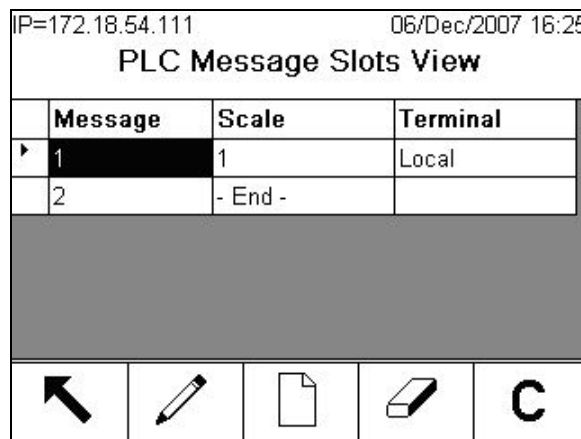

Figure 1-9: PLC Message Slots View Screen
- F. Depending on which format is selected, press the VIEW TABLE softkey  to set up the number of **Message Slots** (1, 2, 3, or 4. In Block Transfer mode, maximum number is 3.) [default is 0], or to configure the Template for communications between the IND780 and the PLC. Figure 1-9 shows the Message Slots View, which is viewed whenever the Format is **not** Template.
Figure 1-11 shows the screen that opens when NEW is selected from the Message Slots View screen (Figure 1-9).